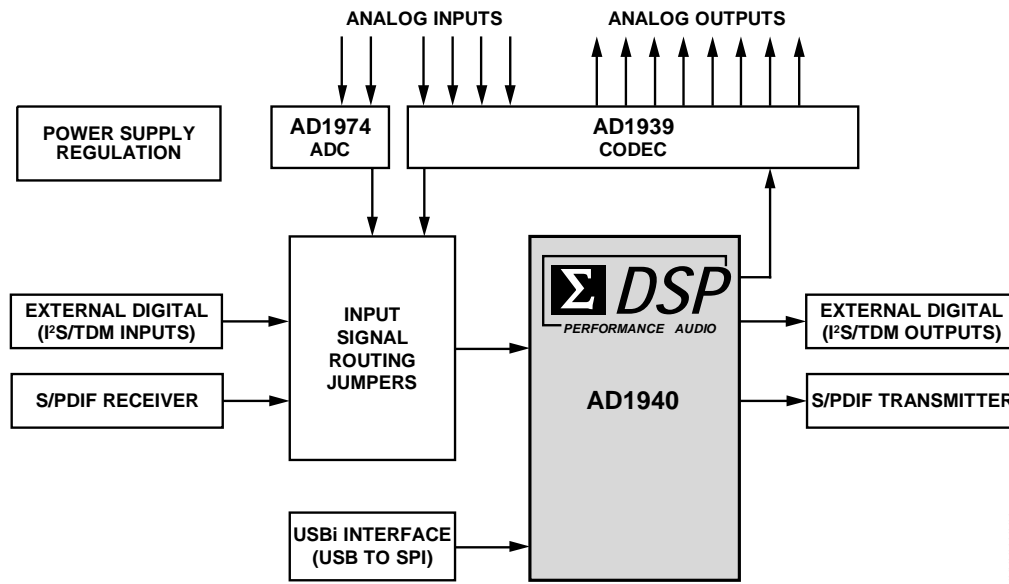

Figure 1. Functional Block Diagram
4. Plug the USBi into the PC's USB port using the included mini USB cable. Plug in the USBi into the control port J2 on the eval board (marked yellow on Figure 1).
7. Connect the audio source to the ANALOG INPUT CHANNEL 0-1 jack J15 (marked blue in Figure 1) on the top of the board, using a 1/8" cable.
8. Connect the ANALOG OUTPUT CHANNEL 0-1 jack J18 (marked green in Figure 1) to your active speakers or headphones.